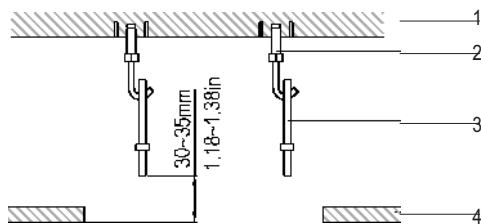

Fig. 27 – Installation Clearances
- b. Adjust the clearance from the ceiling before proceeding further. Installation example see Fig. 27.